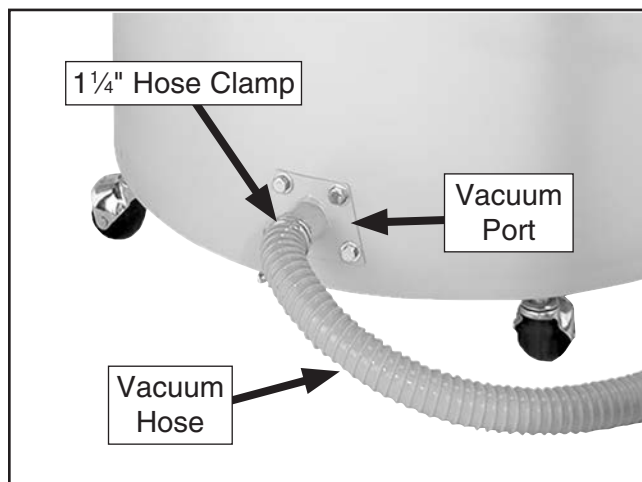

Figure 29. Vacuum hose connected to drum vacuum port.
40. Connect vacuum hose to collection drum vacuum port with (1) $1\frac{1}{4}$ " hose clamp (see **Figure 29**).